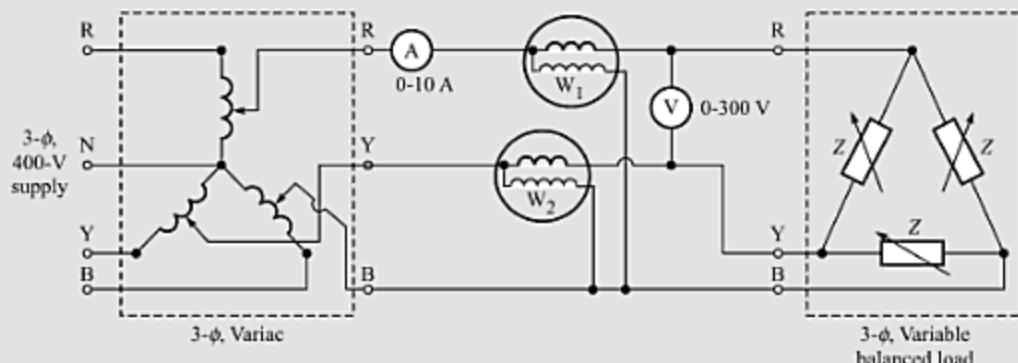

Fig. 12.25 Circuit arrangement to measure power in a three-phase load using two wattmeters.
**Circuit Diagram** The circuit diagram is shown in Fig. 12.25.
1. Make the connections as shown in Fig. 12.25.